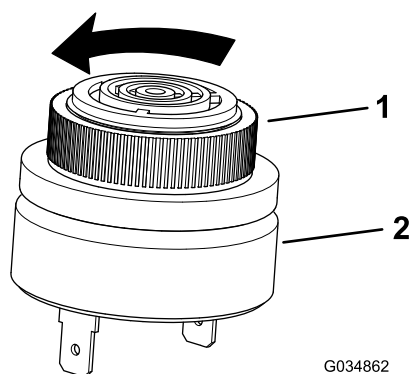

Figure 8
4. Unscrew the cap from the alarm (Figure 8).